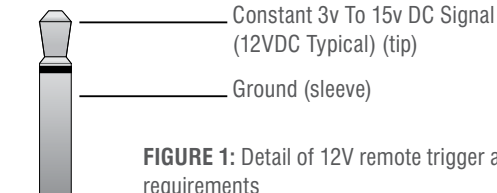

FIGURE 1: Detail of 12V remote trigger and mini-plug connector requirements
(B) 12V REMOTE TRIGGER: A 1/8" (3.5 mm) mini-plug connector is provided on the rear panel for remotely switching the amplifier between Operational and Standby modes. When connected to another component with the proper circuitry, the amplifier standby function can be turned ON and OFF remotely in a custom installation, theater, or automated system setup (See FIGURE 1). Remote trigger mutes loudspeaker outputs only. Preamp outs are still available for headphone use.